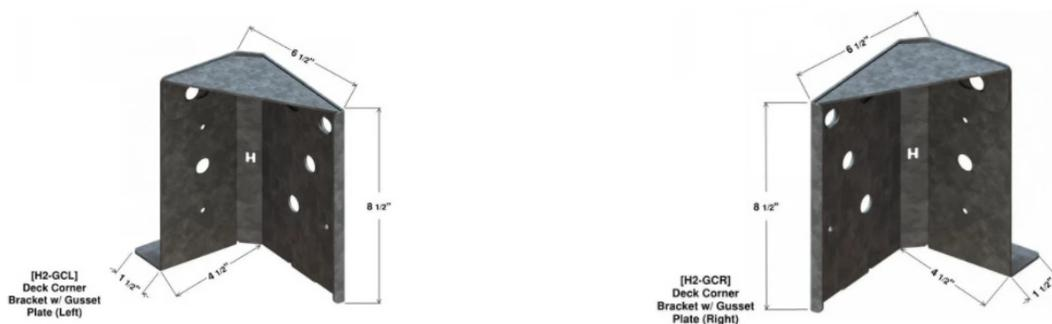

FIGURE 2—H2-GCL BRACKET (LEFT) AND H2-GCR BRACKET (RIGHT)
3.4 H2-GCL/GCR Deck Corner Ledger Support Bracket with Gusset Plate (Left and Right): The H2-GCL/GCR Deck Corner Ledger Support Bracket with Gusset Plate is used to support the outside rim joist and facilitate attachment to the deck ledger board. The GCL and GCR brackets are identical except that the GCL bracket is configured for the left hand corner, and the GCR bracket is configured for the right hand corner. See Figure 2.